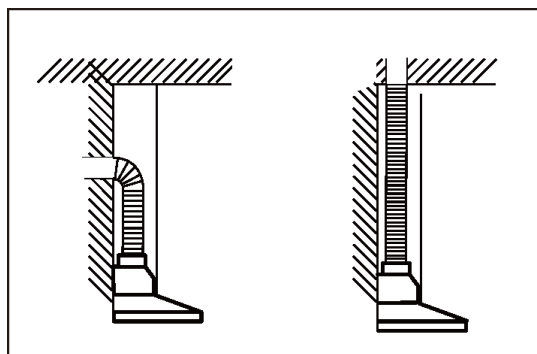

Fig. 2
b) When possible, use at least 60 cm straight runs before any turns. Larger duct work may be required for best performance with longer duct runs. (see Fig. 2)